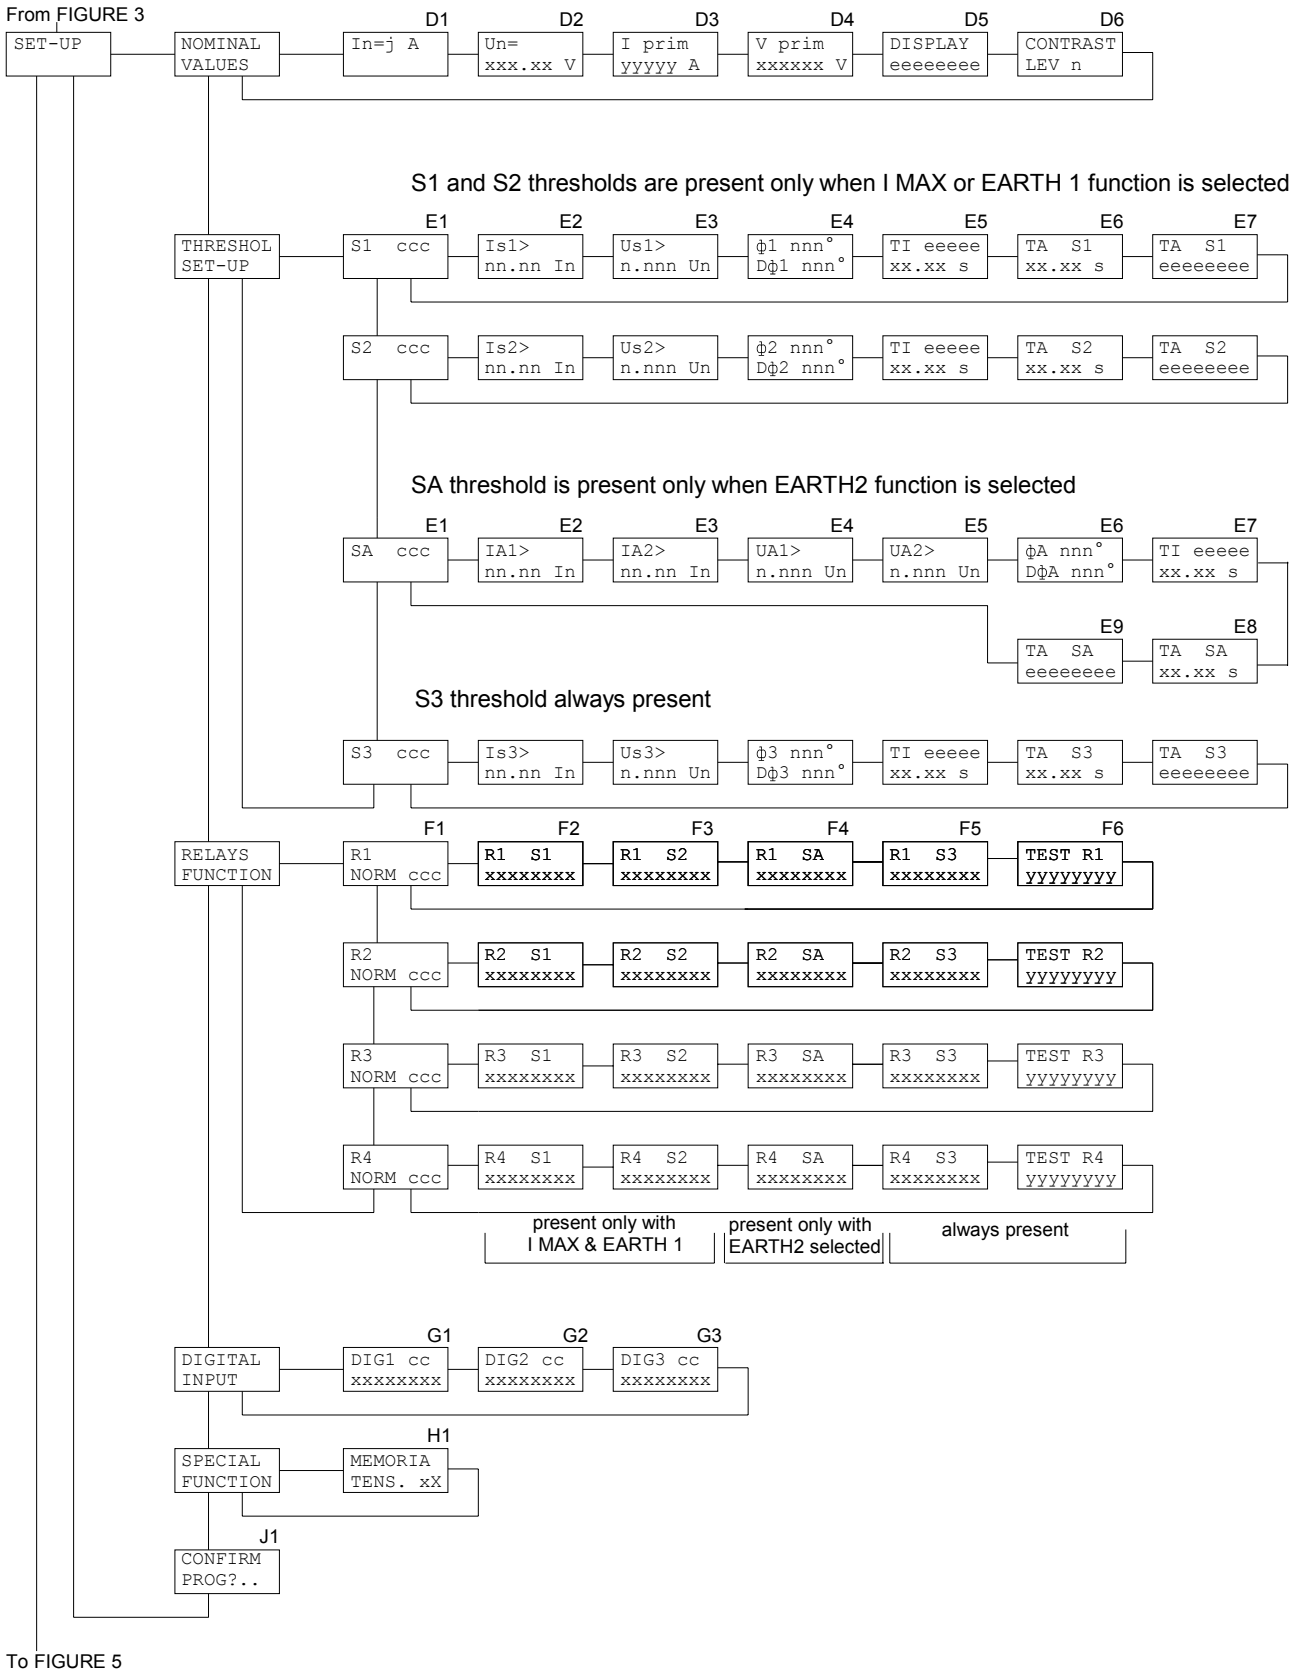

Figure 4
When the output relays test is selected (Fig. 4, ref. F6) it is possible to command an output relay (one at the time) to trip from the current status allowing functional tests on electrical plants.
5.5 Nominal values set-up (fig. 4)